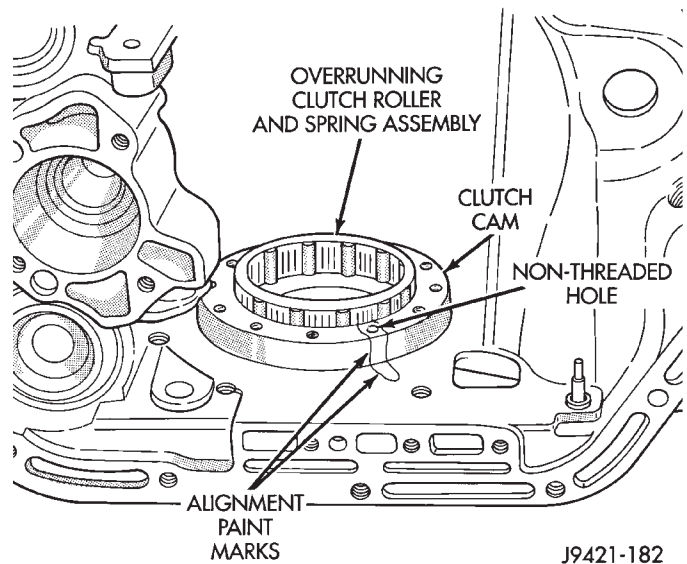

Fig. 128 Overrunning Clutch Cam Alignment
(2) Mark location of non threaded hole in clutch cam and blank area of case with paint stripe (Fig. 128).
(3) Align and install overrunning clutch cam in case (Fig. 128). **Be sure cam is correctly installed. Bolt holes in cam are slightly countersunk on one side. This side of cam faces rearward (toward rear support).**
(4) Partially install overrunning clutch in cam (Fig. 128).
(5) Verify that non threaded hole in clutch cam is properly aligned (Fig. 128). Check alignment by threading a clutch cam bolt into each hole. Adjust cam position if necessary before proceeding.
(6) Seat overrunning clutch in clutch cam after verifying correct cam alignment.